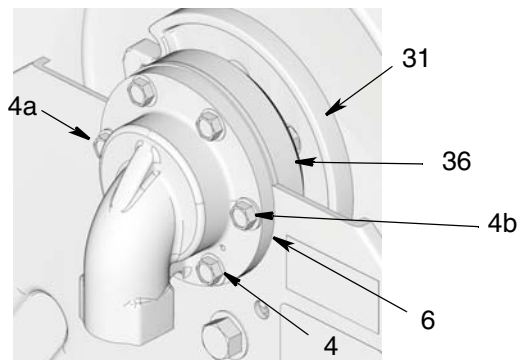

FIG. 39
- b. Position inlet (6) in the desired orientation on the base.
Medium Pressure Models ONLY: Align shim (36) between inlet (6) and ratchet (31) (FIG. 39).
- c. First install the side 2 bolts (4a and 4b) as shown in FIG. 39 through frame and inlet (6). Tighten bolts just enough to hold everything in place.
- d. Install the remaining bolts (4) (FIG. 39). Hand tighten and then torque all bolts to 13-16 ft. lbs (17.6-20.3 N•m).